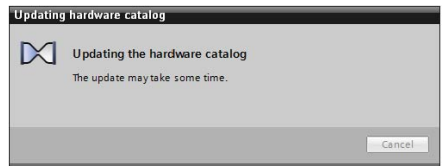

Figure 80. Updating the Hardware Catalog
4. Click **Close**. The **Updating the hardware catalog** window then displays (see Figure 80).